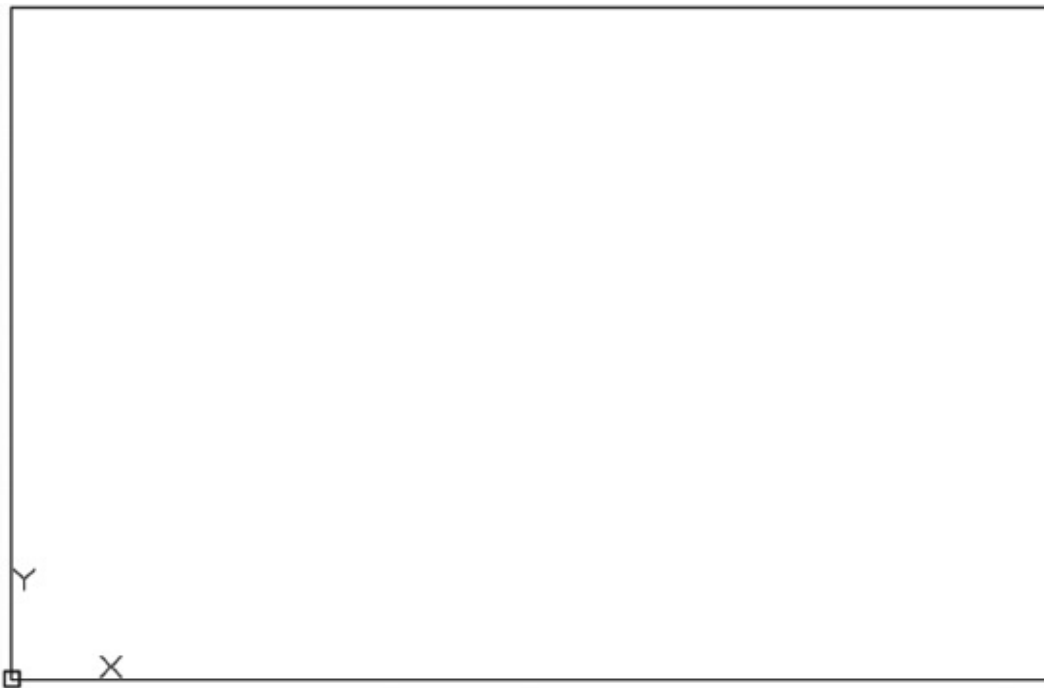

FIGURE 3.16 The view of the sink countertop after making some adjustments
6. Use the Zoom Realtime tool in the Zoom flyout to adjust your view so it looks similar to the one shown in Figure 3.16. You can also enter **Z ↵ ↵** to start the real-time zoom feature or just use your scroll wheel.